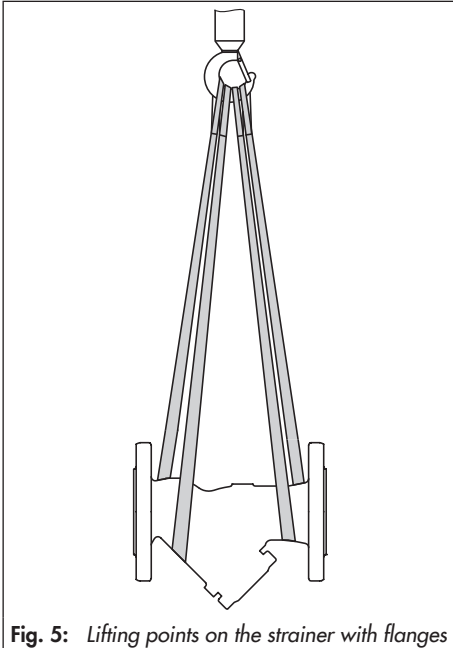
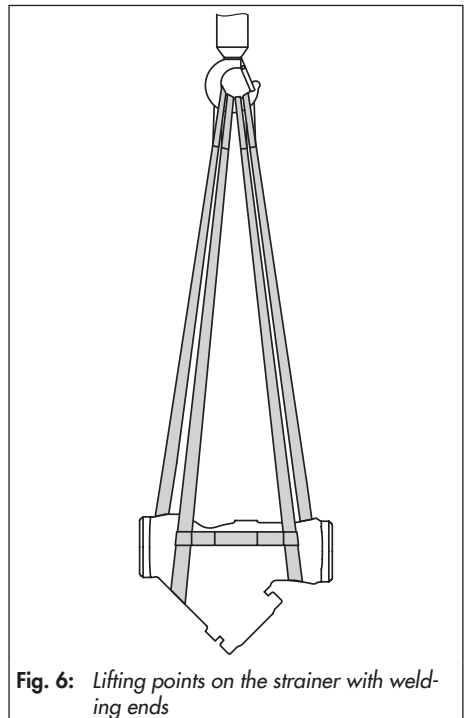

Fig. 5: Lifting points on the strainer with flanges
Fig. 6: Lifting points on the strainer with welding ends
1. Attach one sling to each flange of the body and to the rigging equipment (e.g. hook) of the crane or forklift (see Fig. 5).
1. Attach one sling to each welding end of the body and to the rigging equipment (e.g. hook) of the crane or forklift (see Fig. 6).
We recommend using a hook with safety latch (see Fig. 5 and Fig. 6). The safety latch prevents the slings from slipping during lifting and transporting.